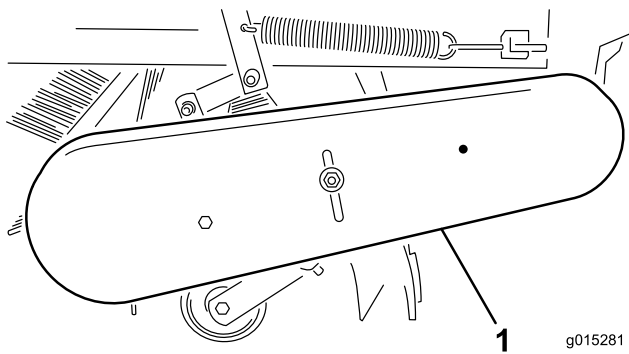
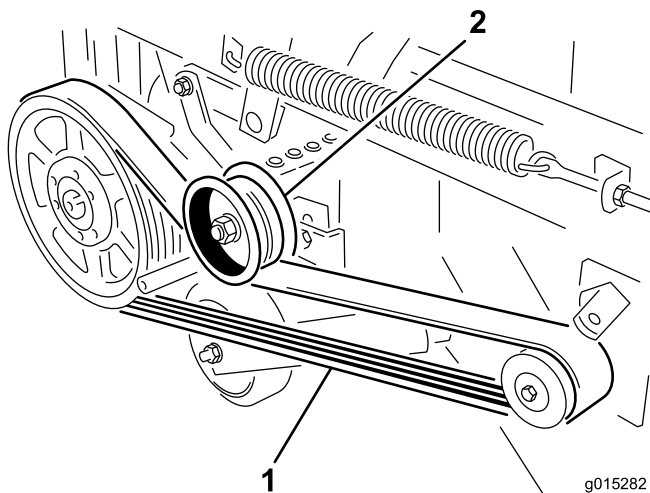

Figure 28
Figure 29
1. Remove the 2 bolts, nut, retaining nut, and washer securing the lower belt guard to the frame. Remove the guard (Figure 28).
2. If the belt has too much slack, loosen the idler pulley nut, press down on the idler pulley until the desired tension is obtained and tighten the idler pulley nut (Figure 29).
4. Remove the lower belt guard and reel drive belt (Figure 28 and Figure 29).
1. Remove the lower belt guard (Figure 28) and the reel drive belt (Figure 29).